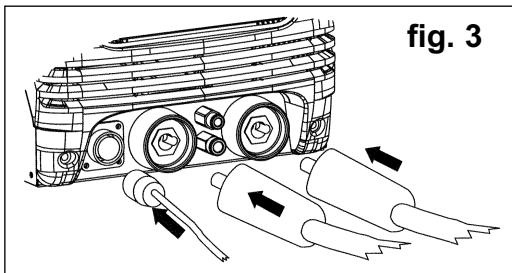

fig. 3
6.3. MANUAL CLAMP, CLAMP STUDDER & GROUND CABLE CONNECTION (fig. 3)